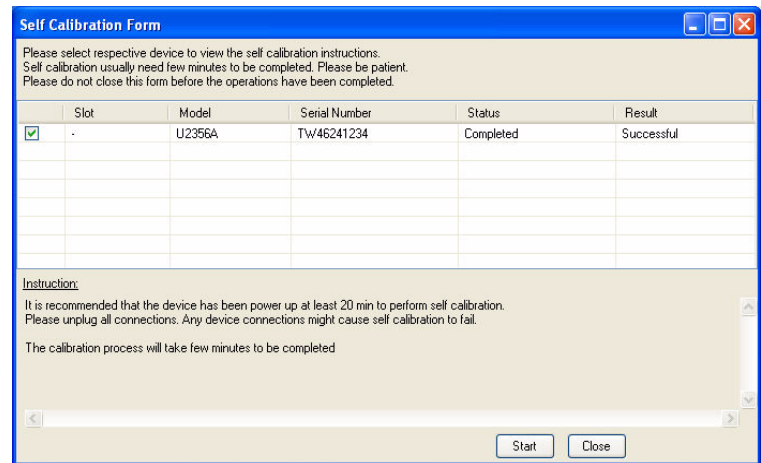

Figure 5-6 Self Calibration Form dialog box in Agilent Measurement Manager showing the status and result of the self-calibration process
- 6 The calibration process will take a few minutes to be completed. Once done, the status and results of the process will be displayed as shown in Figure 5-6.